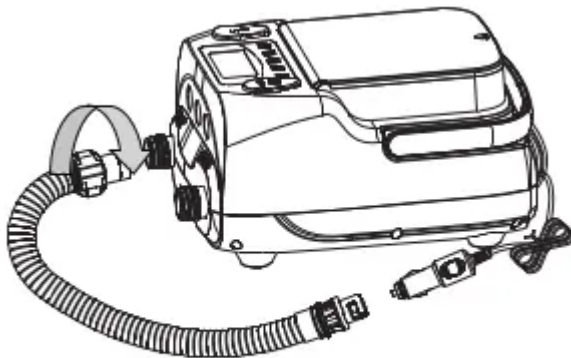

Figure 5
+ Connect the end with flexible conduit adaptor (5) of the hose with the air pump inflation inlet (5). and twist clockwise to tighten it. as Figure 5.